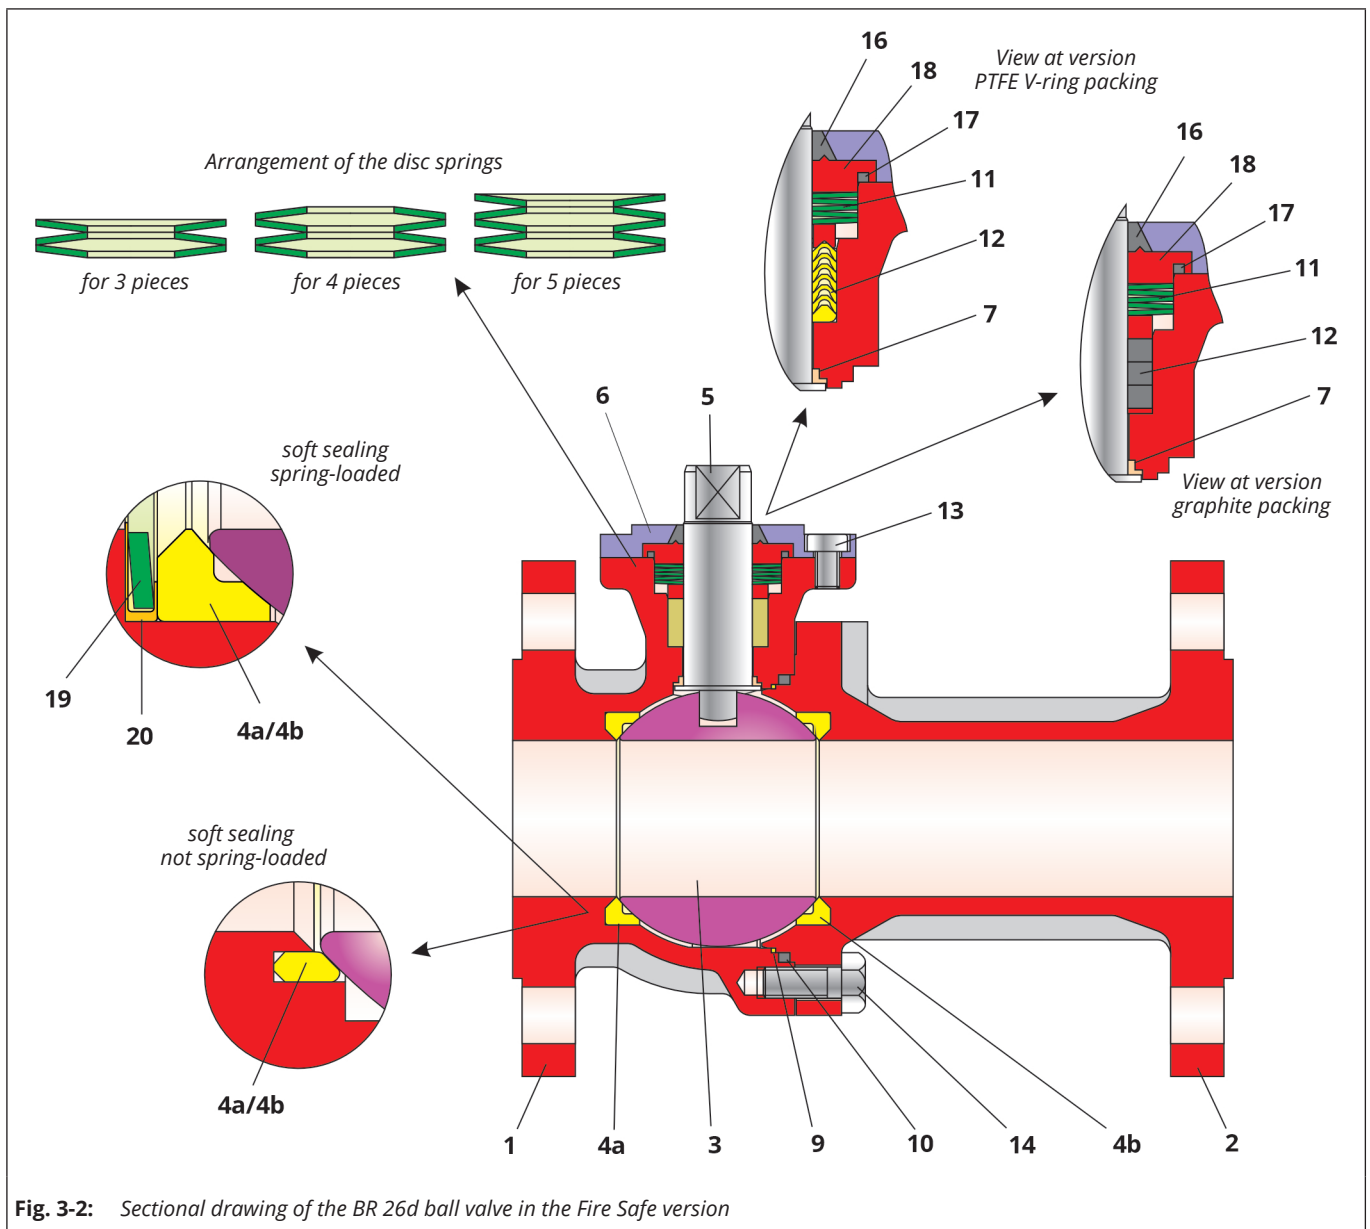

Fig. 3-2: Sectional drawing of the BR 26d ball valve in the Fire Safe version
- ⇒ Push the V-ring packing (12) with a slight rotation movement over the assembled control shaft (5) and insert it into the packing space of the main body (1). For the arrangement of the V-rings, see Fig. 3-2.
- ⇒ Place the disc spring set (11) on the V-ring packing (12). For the arrangement of the disc spring, see Fig. 3-2.
- ⇒ Push the graphite packing (12) with a slight rotation movement over the assembled control shaft (5) and insert it into the packing location of the main body (1), see Fig. 3-2.
- ⇒ Place the disc spring set (11) on the wedge ring packing (12). For the arrangement of the disc springs, see Fig. 3-2.